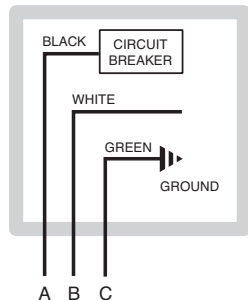

Fig. 19: Wiring Connections
**WARNING:** Using a multi-meter, check the following voltages at the circuit breaker panel prior to connecting any equipment. Make sure proper polarity is followed and house ground is proven. (See Fig. 19.)